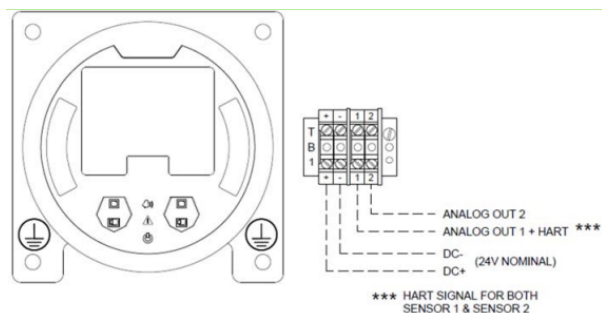

Figure 23 TG5000 without power supply
3. Connect the power and analog output connections (Figure 23).